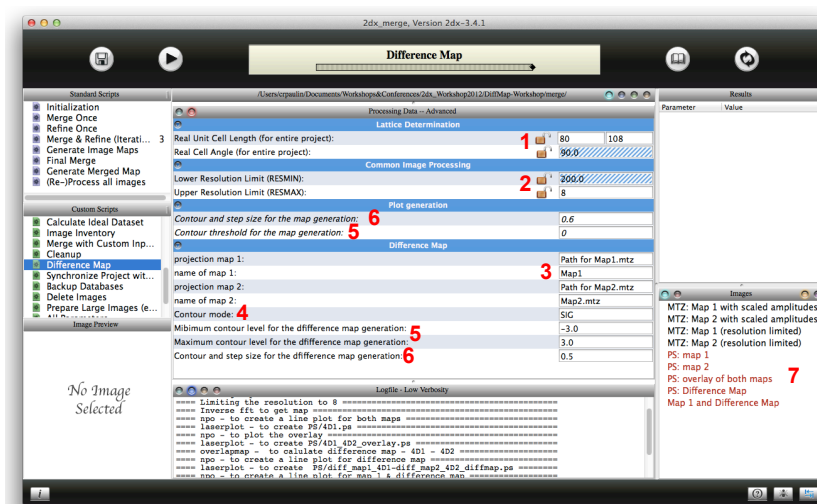

Figure 50: GUI for the calculation of a difference map.
The difference map is calculated in `2dx_merge`. You find the script *Difference Map* in the Custom Script panel. You can open `2dx_merge` in an existing directory or create a new one. In the Parameter panel you have to specify the path for the two merged `2D.mtz` files (3), enter the right unit cell dimensions (1) and the resolution cutoff (2) you want to apply for the difference map (see Figure 50). Furthermore you can change the contour mode (4), contour range (5) and contour level (6) of you created maps. The script generates a map for both datasets and calculates the difference map with or without superimposed to the first map (7).